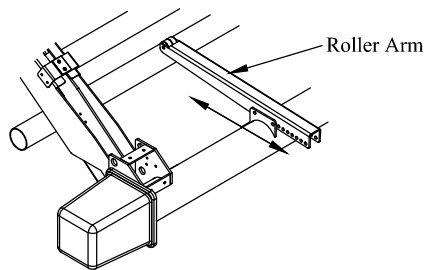

Figure 13: Roller arm adjustment.
26. **Open** and **Close** platform several times, checking adjustment of roller arm (Figure 13). Extend the position of the arm to make opening the platform easier. A platform position of five to ten degrees short of vertical is recommended.